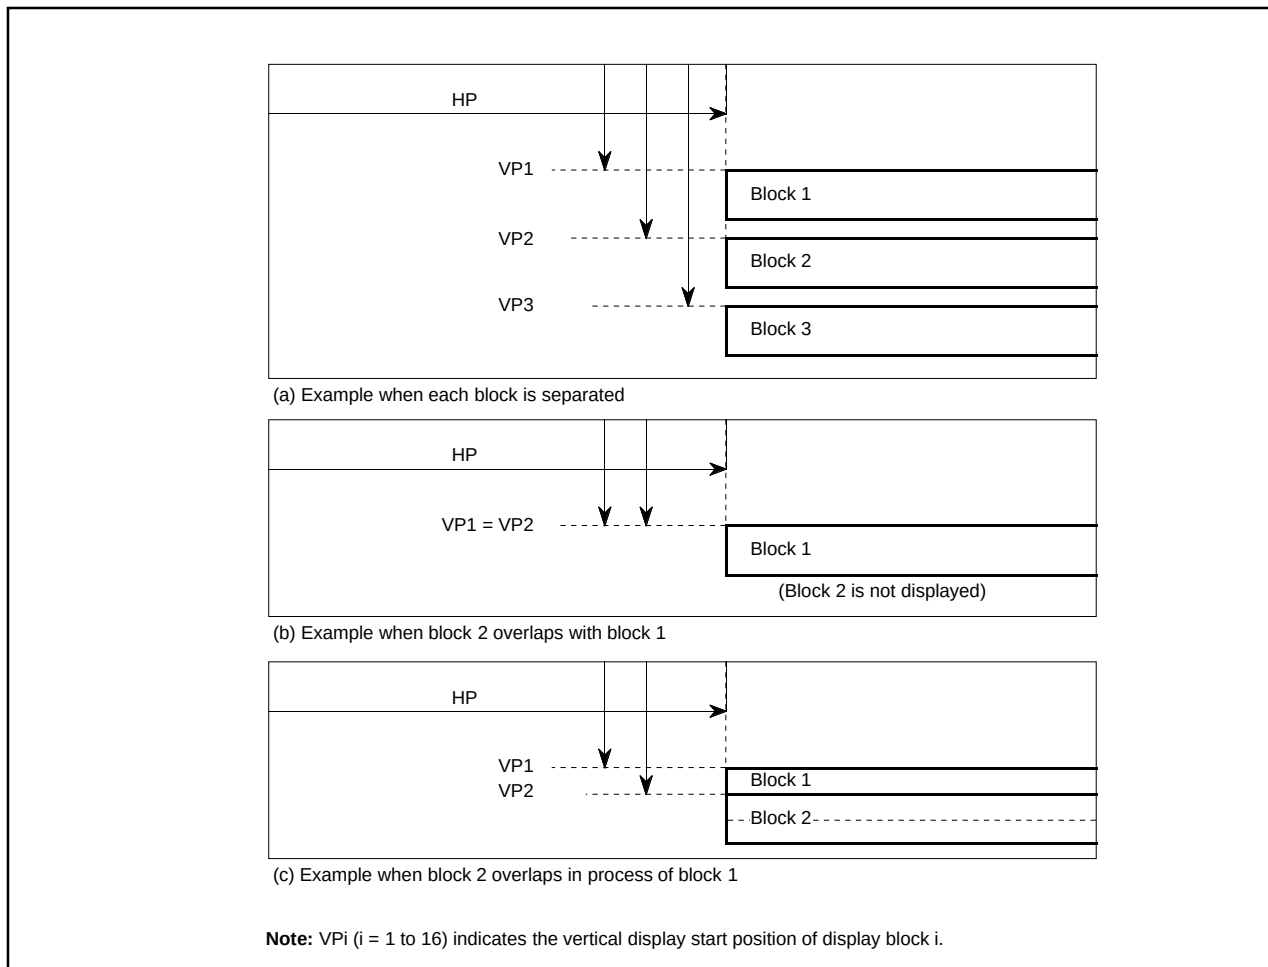

Figure 2.16.8 Display position
- When the display position is overlapped with another block in the same layer (Figure 2.16.8 (b)), a lower block number (1 to 16) is displayed on the front.
- When another block display position appears while one block is displayed in the same layer (Figure 2.16.8 (c)), the block with a larger set value as the vertical display start position is displayed. However, do not display block with the dot size of 2T_c × 2H or 3T_c × 3H during display period (*) of another block.